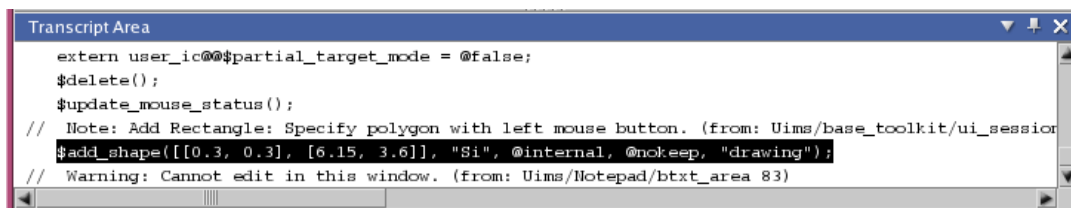

Figure 25: Rectangle Attributes in Transcription Area
- i. In the transcript area, copy the line of code that generated the original rectangle (see Figure 25).